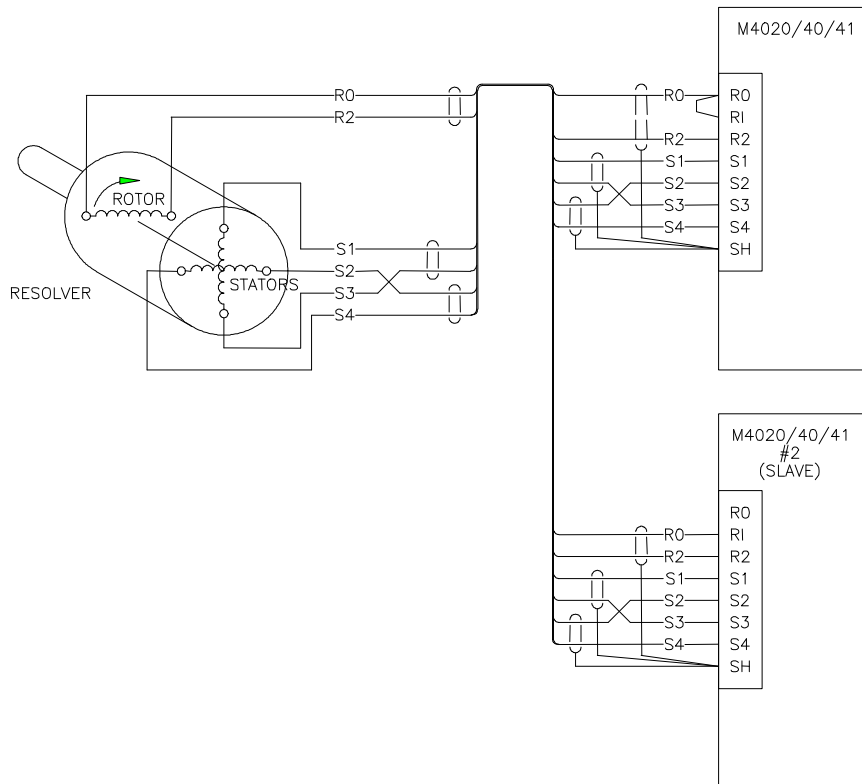

Figure 12.8 – M1771-4021's Slaved to One Resolver
Figure 12.8 shows two M4000 modules wired to one resolver with module #2 slaved to module #1 (reference for resolver supplied by module #1). In this case the reference output (RO) of module #1 is connected to the resolver and tied to the reference inputs (RI) of both modules while the reference output of module #2 is not used. Up to 8 modules can be slaved off one resolver this way.